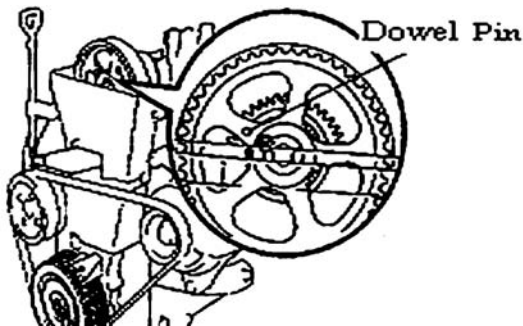

Figure 15
- (1) Turn the crankshaft pulley to make exhaust camshaft dowel pin is a bit higher than the cylinder head. See (Figure 15).